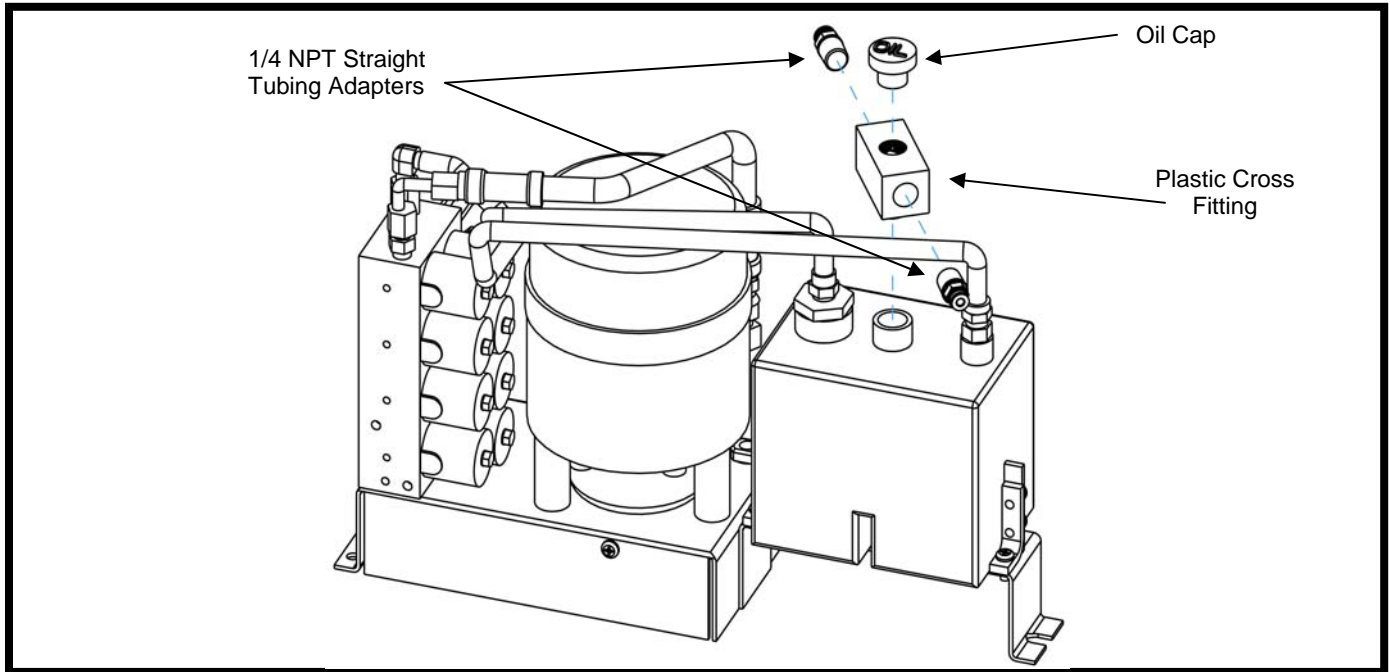

Figure 1. Installation of Fittings for Hydraulic Reservoir
2. Carefully remove all plastic covers from the chair by using a flat head screwdriver to pry off the plastic caps and a #2 Phillips head screwdriver to remove the screws. Once the covers are removed, use the #1 Phillips head screwdriver to remove the four (4) screws connecting the upholstered seat to the metal seat plate.
4. Remove the red plastic breather cap, marked "OIL" (see Fig. 1), from the reservoir and thread it into the top of the plastic cross fitting (provided).
5. Thread the plastic fitting into the reservoir such that it is oriented at an angle between the two hydraulic lines, as shown in Fig. 1. Do not cross-thread or over-tighten the fitting in the reservoir.